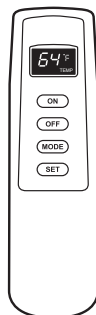

Figure 28 - Remote Control
4. Press the ON button on the remote control to light the burner (see Figure 28). You will hear a series of beeps. This will also "learn", or program, the remote and the receiver.